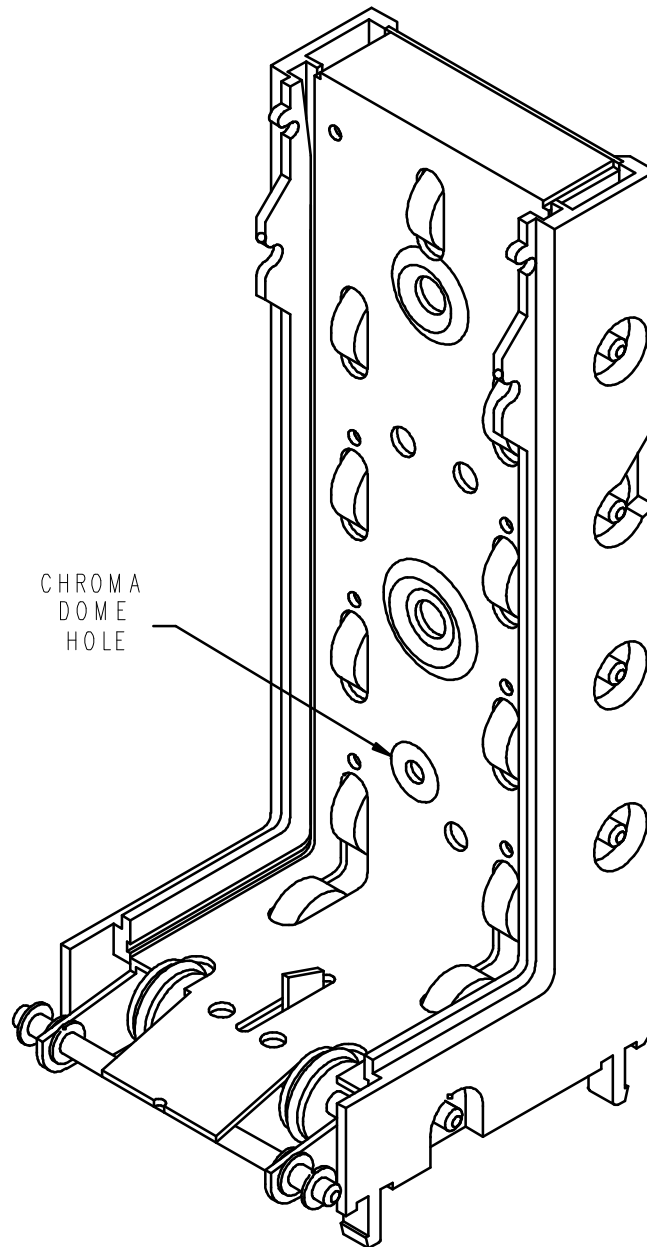

Figure 2
4. Inspect the upper chroma dome (hole in the upper track) for lint and dust build up. The chroma dome can be cleaned by using pressurized air. (i.e., air hose, canned air or brush supplied in the kit. See Figure 2 below.